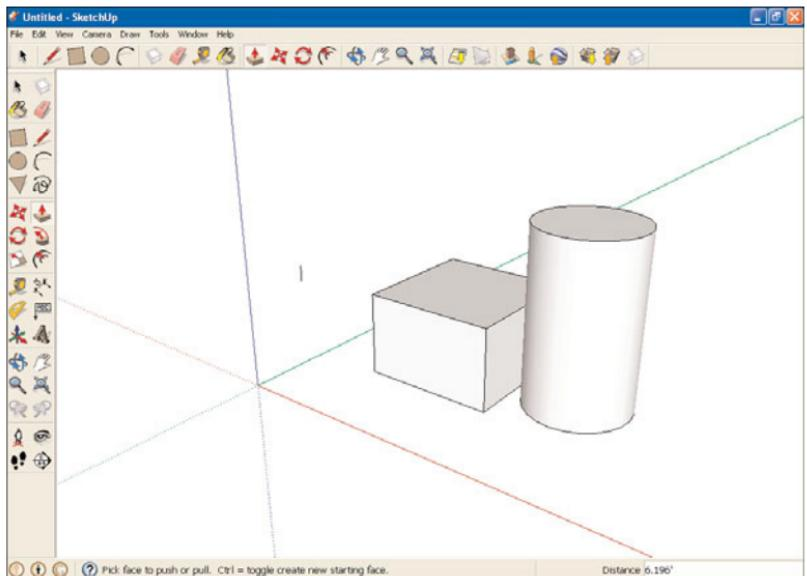

FIGURE 6.3 A new cylinder.
5. Select the **Push/Pull tool** in the toolbar, and then pull the circle into a cylinder, as shown in Figure 6.3.